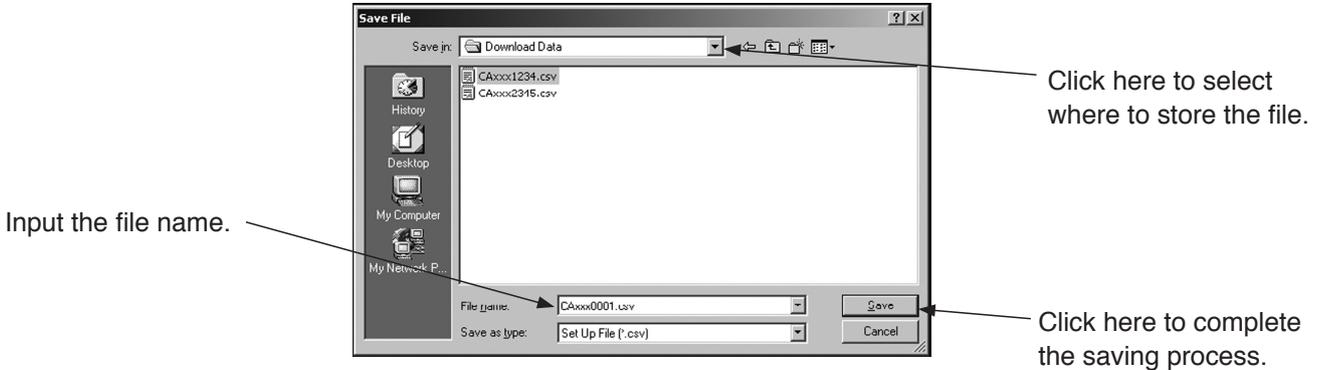

Fig.161
- ① Click the "File (F)" menu, and then select and click "Save File (S)" from the "Database (F)" drop-down list.
- ② The common dialog box (Fig. 161) will be displayed. Select the disk and folder in which the data is to be stored from the drop-down list.
- ③ Input the name of the file to be saved and click the "Save (S)" button. This completes the file saving process. If you select the wrong location for storing the file, click the "Cancel" button and start over.